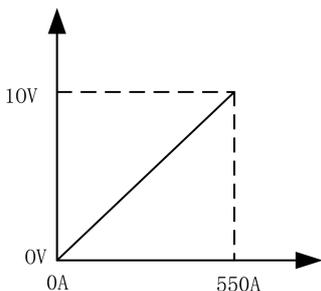

Fig. 4-23 Proportional diagram: preset welding current V.S. value from robot to welding machine
2. The proportional diagram of preset welding current is shown in Fig. 4-23.